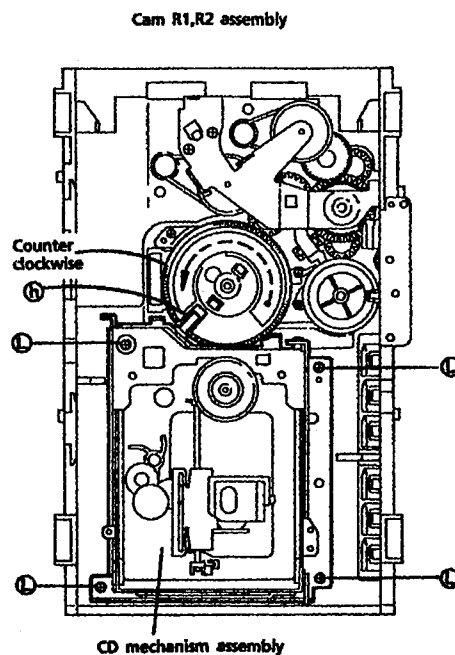

Fig. 29
2. Rotate the Cam R1, R2 ass'y counterclockwise so that CD mech. ass'y's shaft ⑤ is positioned as shown in Fig. 29.
3. Remove 4 screws ④ securing CD mech. ass'y. (See Fig. 29.)